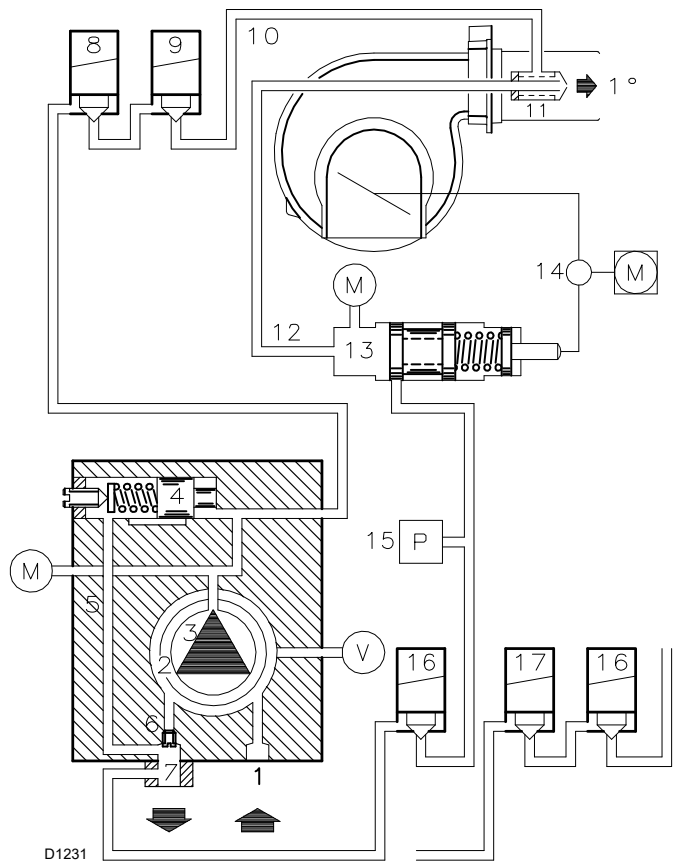

Fig. 29
They are installed on the burner with the by-pass closed by screw 6)(Fig. 29).
- The pump 3)(Fig. 29) draws fuel from the tank through the pipe 1) and pushes it under pressure to the outlet.
Key (Fig. 29)